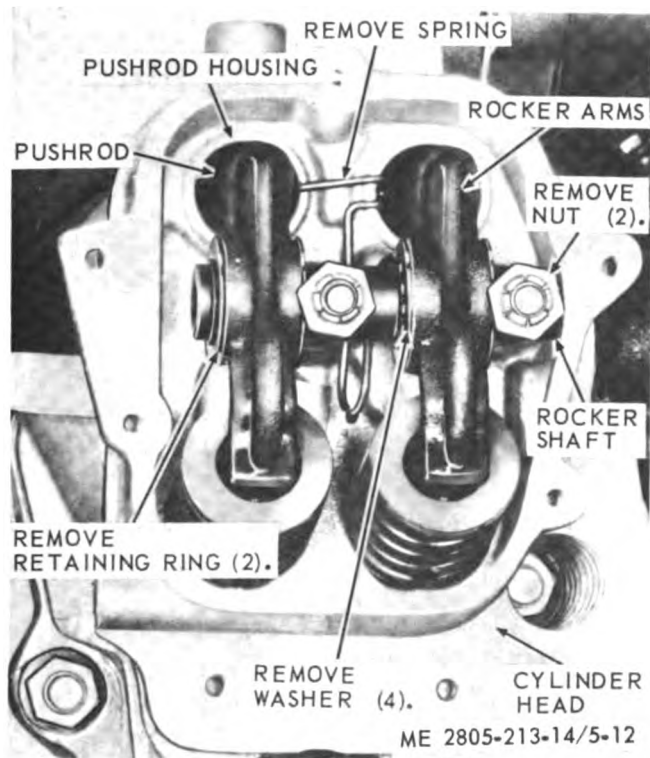

Figure 5-12. Rocker arms, pushrods, and pushrod housings, removal and installation (Model AO42-KM).
- (1) Remove the rocker arm covers (para 3-41).
- (2) Refer to figure 5-12 and remove the rocker arms, pushrods, and pushrod housings.
- (1) Refer to figure 5-12 and install the rocker arms, pushrods, and pushrod housings.
- (2) Install the rocker arm covers (3-41).